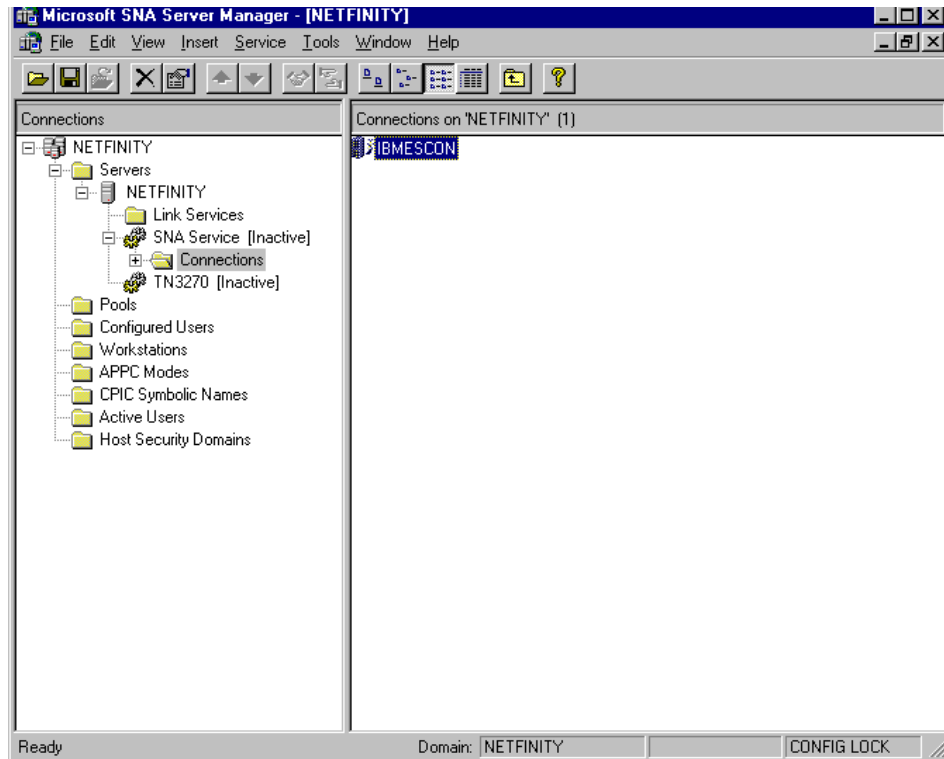

Figure 8-29. Configured Connection
7. When you return to the SNA Server Manager dialog box, the new Connection will be displayed (See Figure 8-29).